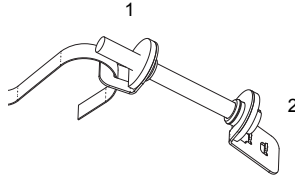

Fig. 9.3: FLEXIM clasp
- Insert approx. 2 cm of the tension strap into the slot of the clasp (see Fig. 9.3).